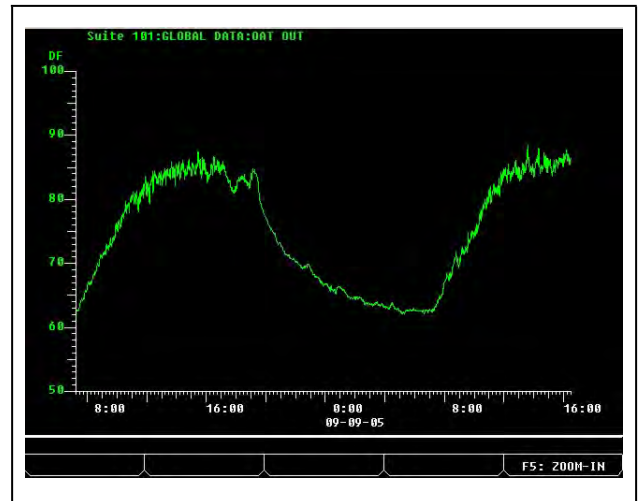

Figure 12-28 - Sample Graph View
- **F3** GRAPH - Displays logged data in a graph format (see **Sample Graph View - Figure 12-28**).